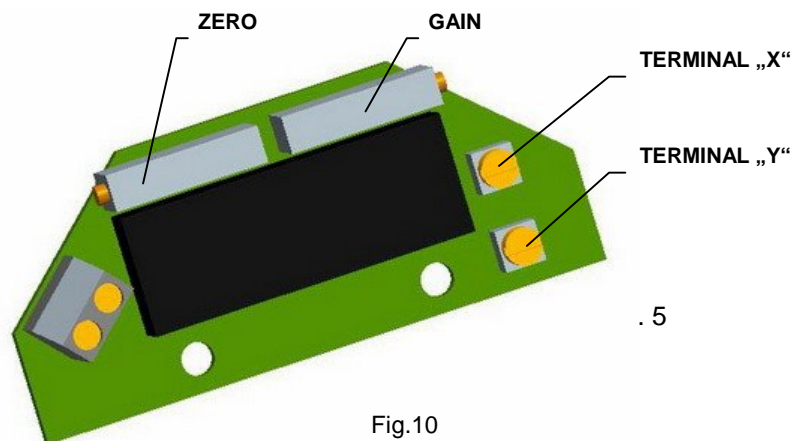

Fig.10
4.6.1 EPV – the 2-wire version (Fig. 10)
- Adjust the resistive transmitter according to the previous chapter. The resistance is to be metered on the terminals X-Y (Fig. 10). The used transmitter resistance is 100 Ω .
- Turn the adjusting trimmer ZERO (Fig. 10) to adjust the output current signal rate measured on the terminals 81-82 to 4mA.
- Turn the adjusting trimmer GAIN (Fig. 10) to adjust the output current signal rate measured on the terminals 81-82 to 20mA.